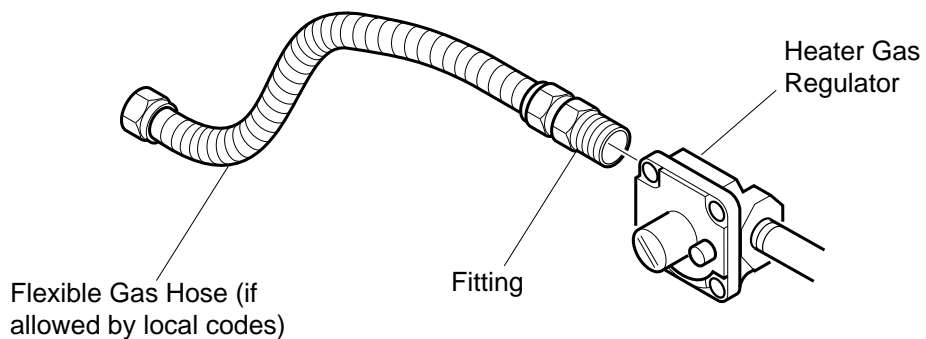

Figure 11 - Attaching Flexible Gas Hose to Heater Gas Regulator
1. Apply pipe joint sealant lightly to male threads of the fitting to be threaded into gas regulator. Connect approved flexible gas hose to gas regulator of heater (see Figure 11, page 16).